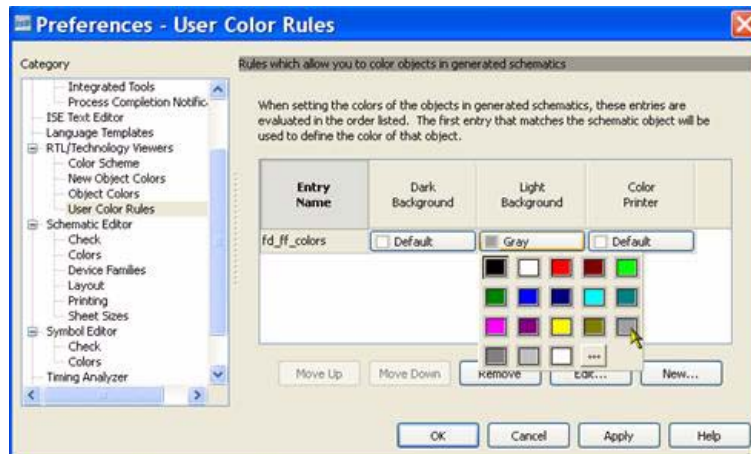

Figure 7-10: **Selecting Light Background Gray**
6. In the **Light Background** column, select **Gray** as the color (see Figure 7-10) for created **fd_ff_colors**, and then press **OK**.